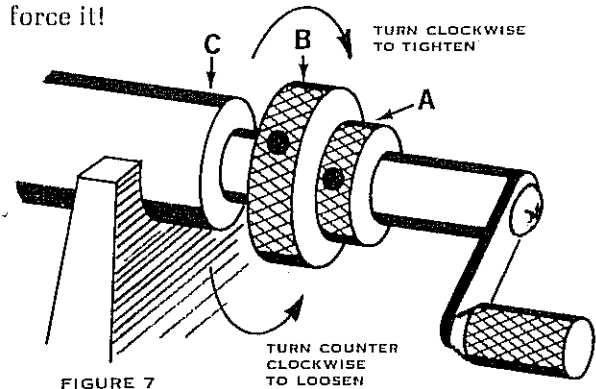

FIGURE 7
- 5 Holding Adjustment Bushing A firmly in place, unscrew Fine Adjustment Bushing B four or five full turns counter clockwise. (Figure 7). Now slide both Bushings left against Cutter Guide C, and tighten Allen setscrew in Bushing A only. Twist Bushing B clockwise 1/2 turn, and you're ready to trim the first case. NOTE: When turning Cutter handle, press lightly inward against case mouth—but do not force it!